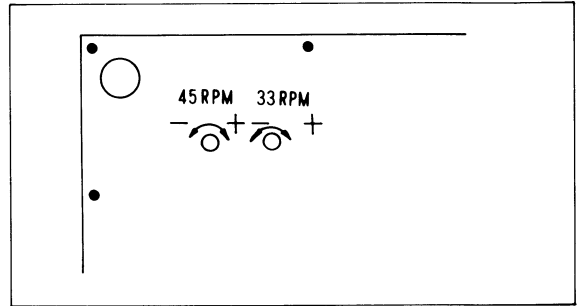

Fig.5-1
1. SPEED ADJUSTMENT (Refer to fig. 5-1)